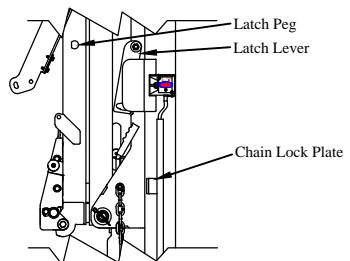

Figure 6: Step 6.
- Step 6. Move the Latch Lever off of the Latch Peg on the platform (Figure 6).